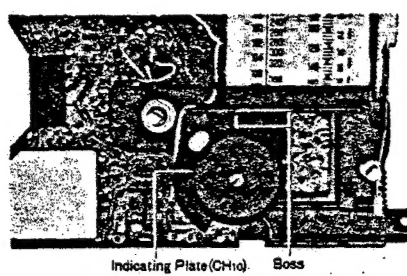

Fig. 7
4. Insert the indicating plate at the position, as shown in fig. 7.